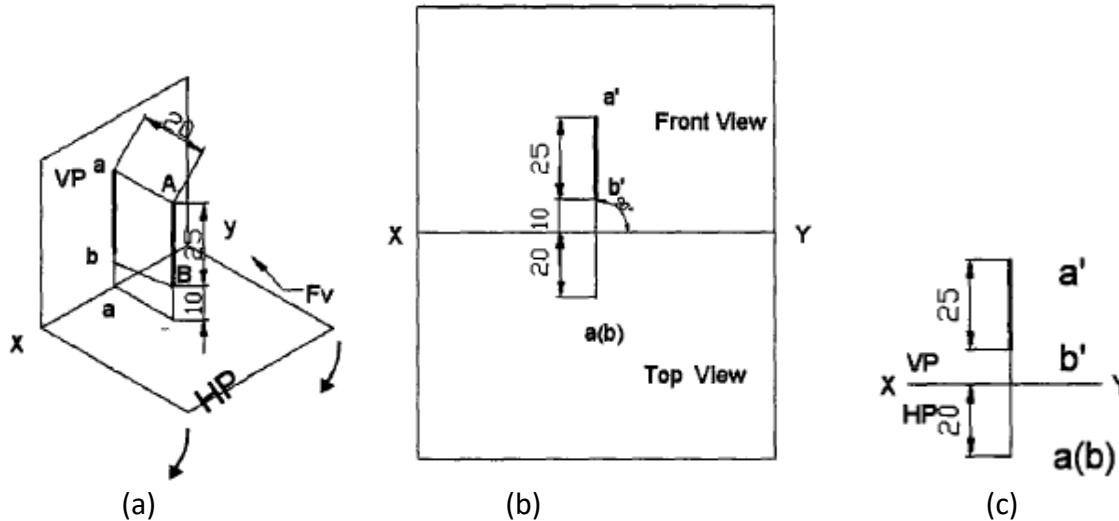

Fig. 2.7 Line perpendicular to H.P and parallel to V.P
The pictorial view of a straight line AB in the First Quadrant is shown in Fig. 2.7 (a).
3. The Position of the line AB and its projections on H.P. and V.P. are shown in Fig. 2.7 (b).
4. The H.P is rotated through 90° in clock wise direction as shown in Fig. 2.7 (b).
5. The projection of the line on V.P which is the front view and the projection on H.P, the top view are shown in Fig. 2.7 (c).